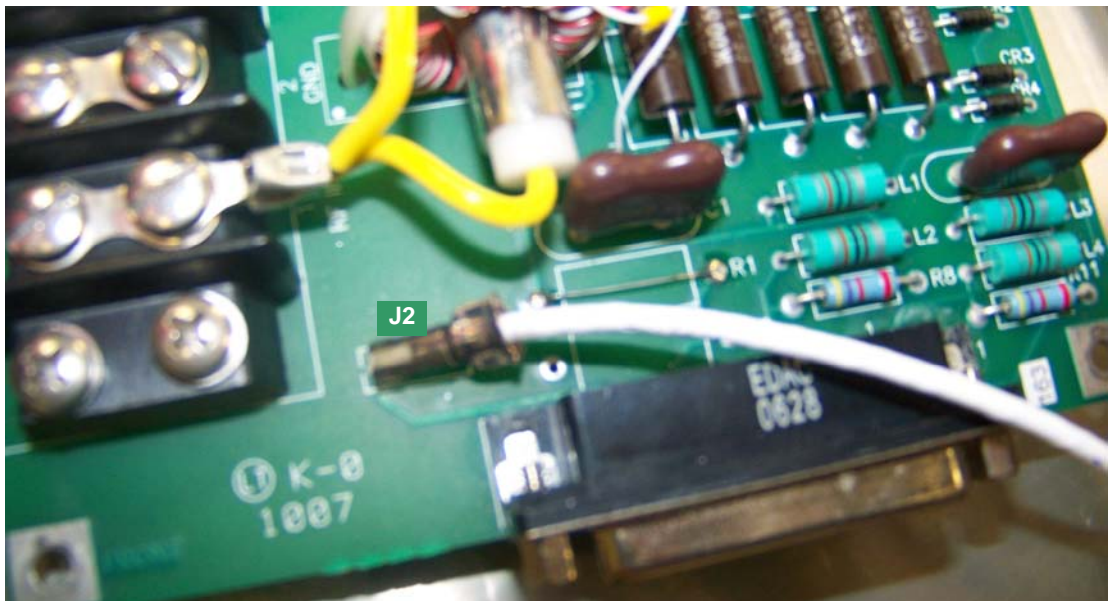

Figure 3: Installing the white cable on J1 of the NAFP99 or J2 on the NAFP07 (NAFP07 shown)
- (d) Reinstall the RF power probe. Connect the white cable to J1 on NAFP99 or to J2 on NAPF07 before securing the board (see Figure 3). Use caution when mating the connectors. Pull the white cable out as far as possible to allow ample length to work with. Align the cable plug male end with the board's female end. If you force the male plug in without proper alignment it may dislodge the connector on the board and result in the loss of RF current sample. When installing, push the male plug in by centering it with the female end to ensure proper alignment and ease of installation. After making the connection, slide the board into place and secure. Use a long screwdriver to access the back screws.